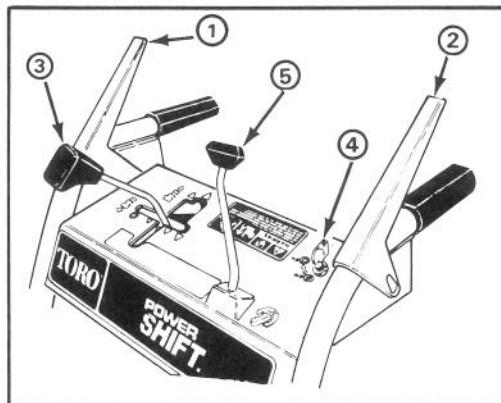

Figure 9.
**Auger/Impeller Control (Fig. 9)** — Control has two positions: ENGAGE and DISENGAGE. To engage auger and impeller, compress lever against right handle grip. To disengage, release lever.
**Traction Drive Control (Fig. 9)** — To engage traction or activate power shift system, lever must be compressed against left handle grip. To stop traction, release lever.
**Speed Shift Control (Fig. 9)** — The control has four speeds forward and two reverse and also controls power shifting of wheels. To select speeds, move shift control to desired position.
**Auger Lock-Up:** (Fig. 9) — When auger/impeller control and traction drive control are both compressed, the traction control locks the auger/impeller control down. Releasing the traction control releases the auger/impeller.
**Discharge Chute Control (Fig. 9)** — Rotate discharge chute control clockwise to move discharge chute to the right and counterclockwise to move chute to the left.
**Ignition Switch (Fig. 9)** — Switch has two positions: ON and OFF. Rotate key to ON position before starting engine. To stop engine, rotate key to OFF.
4. Rotate ignition key to ON (Fig. 9).
1. Release traction and auger/impeller drive controls (Fig. 9).